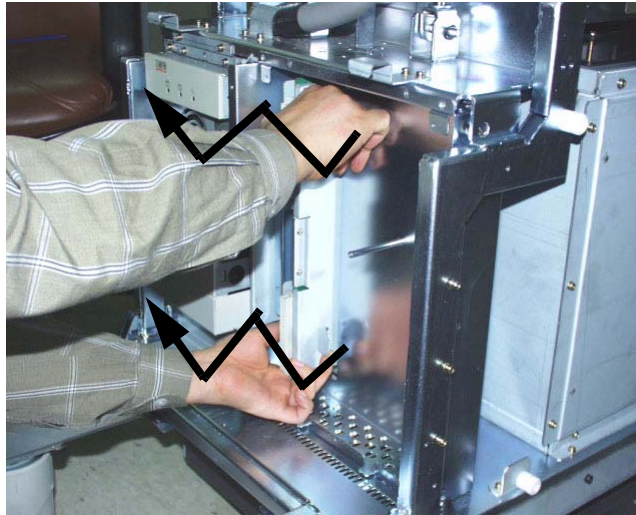

Figure 8-92 Pulling Out LMT Board
- 3.) Pull the LMT Board out. Refer to Figure 8-92 on page 8-70 ..